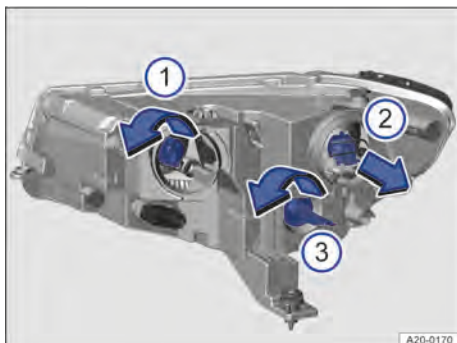

Fig. 172 In the bonnet space: replacing bulbs in the right-hand headlamp.
2. Turn the bulb holder in the direction of the arrow as far as it will go and pull it out to the rear → Fig. 172 ①.
4. Insert the bulb holder into the headlamp and turn it in the opposite direction to the arrow as far as it will go → Fig. 172 ①.
2. Pull out the bulb holder in the direction of the arrow → Fig. 172 ②.
4. Insert the bulb holder into the headlamp and press in the opposite direction to the arrow → Fig. 172 ②.
1. Turn the bulb holder in the direction of the arrow as far as it will go and pull it out to the rear → Fig. 172 ③.
3. Insert the bulb holder into the headlamp and turn it in the opposite direction to the arrow as far as it will go → Fig. 172 ③.